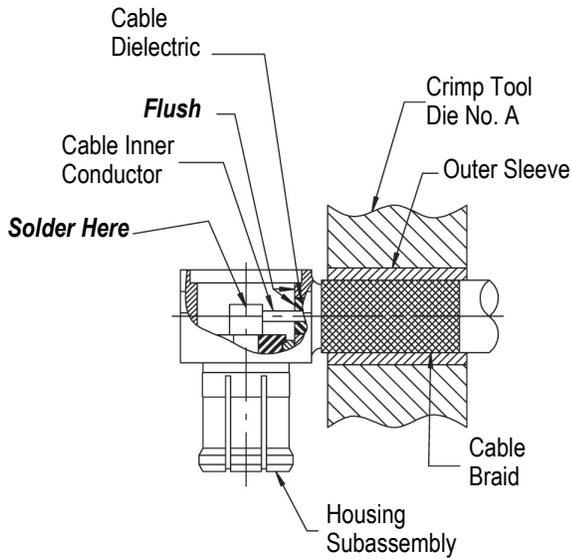

Figure 4
**3.2. Soldering of Cable Inner Conductor to Center Contact (Figure 4)**
### 3.3. Crimping the Cable Subassembly to the Housing Subassembly (Figure 4)
2. Crimp the Outer sleeve in place (refer to Figure 4).